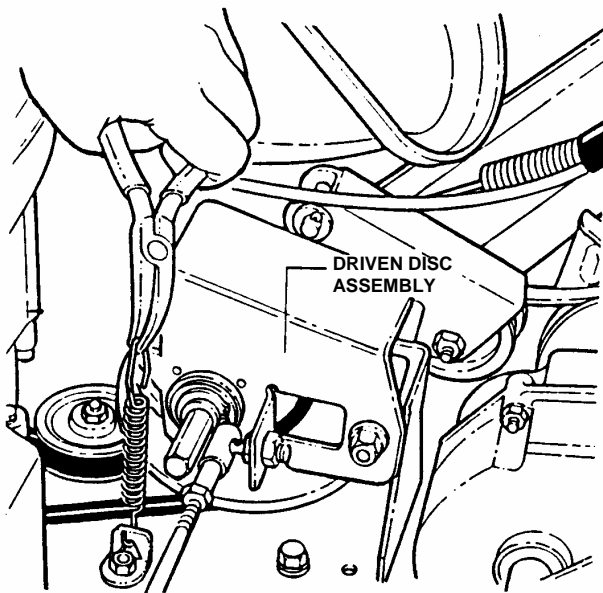

FIGURE 4.11
2. Using needle nose pliers, unhook the drive spring and slide the driven disc assembly off the hex shaft. See Figure 4.11.